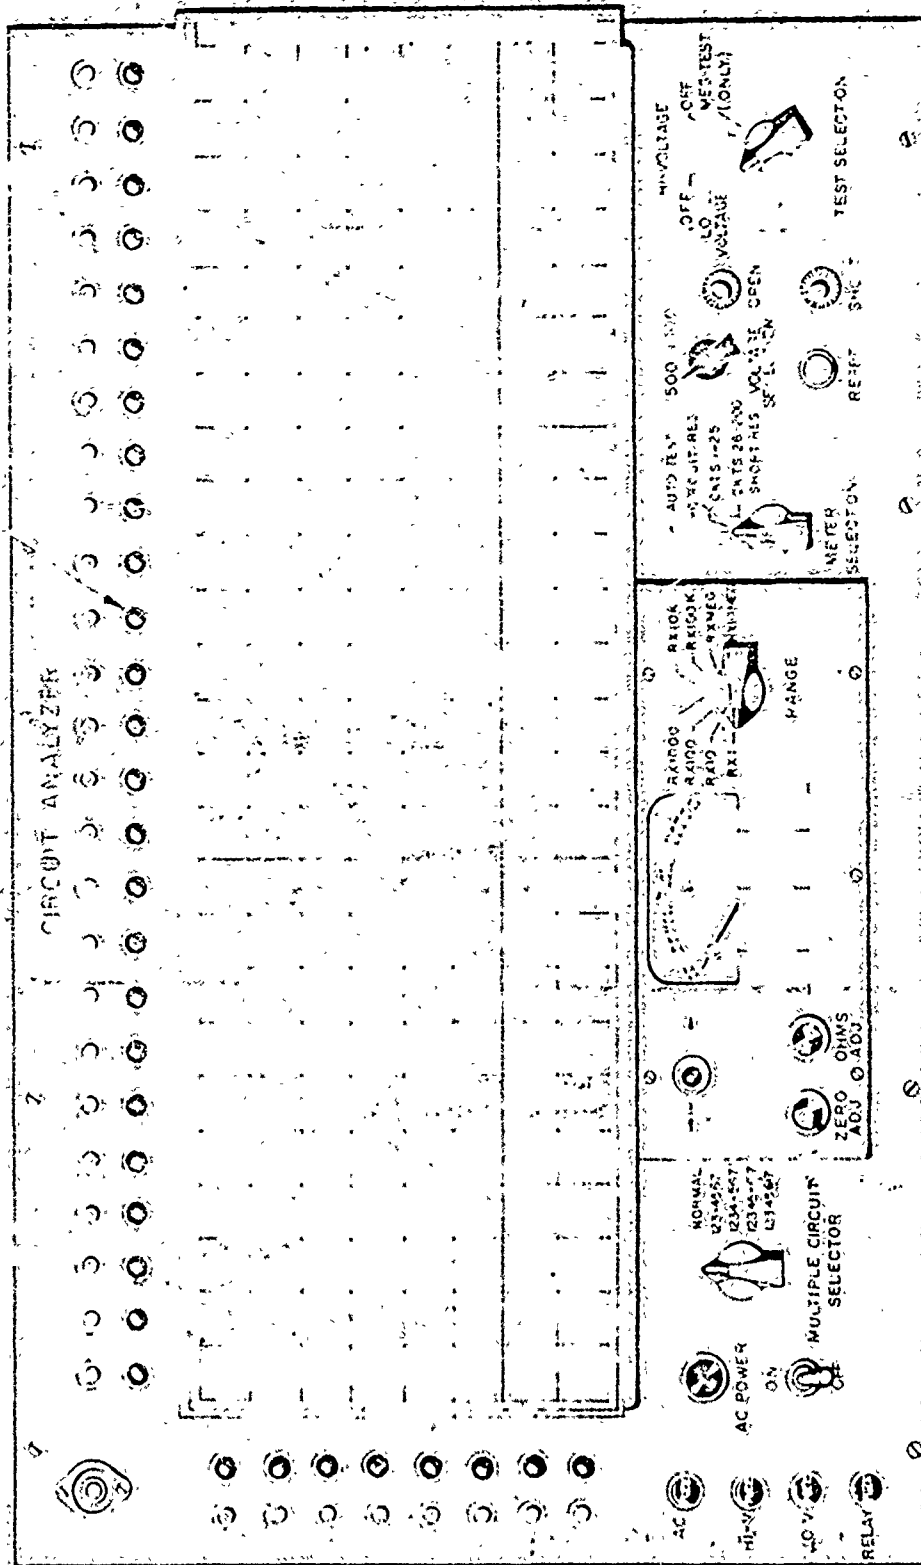

Figure 2. CIRCUIT ANALYZER PANEL
4.1.2 Set the circuit analyzer panel switches, Figure 2, as follows:
4.3.2 Place the Chart Assembly, BuWeps Dwg. 1984228 onto the circuit analyzer panel, Figure 2.